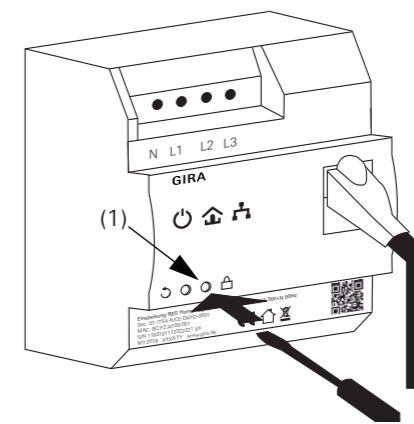

Fig. 4: Encryption button on the DRA HomePlug AV feeder
After the DRA HomePlug AV feeder and another HomePlug AV device have been connected, within two minutes, press both encryption buttons for one second. By pressing the encryption button, (Fig. 4, (1)) the data traffic of the HomePlug AV network is secured using a randomly-generated code.